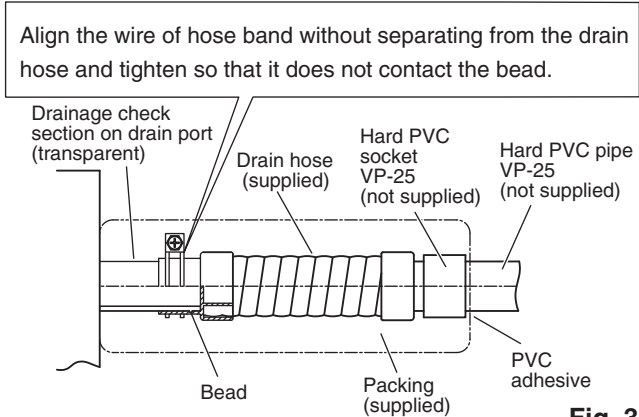

Fig. 3-8
The transparent drain part on the unit allows you to check drainage. (Fig. 3-8)
- **Tighten the hose clamps so their locking nuts face upward. (Fig. 3-8)**